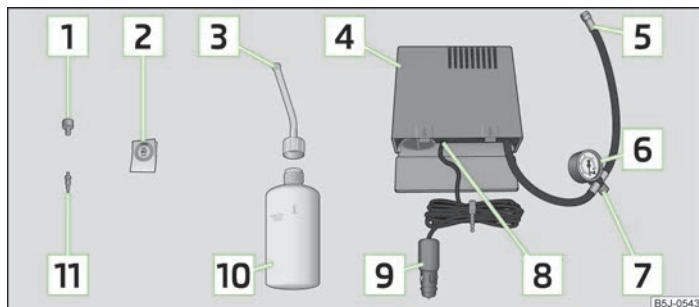

Fig. 134 Components of the breakdown kit
- > Stick the sticker [2] » Fig. 134 on page 161 on the dash panel in view of the driver.
- Forcefully shake the tyre inflator bottle [10] » Fig. 134 on page 161 several times.
- Screw the tyre inflation hose [5] » Fig. 134 on page 161 of the air compressor firmly onto the tyre valve.